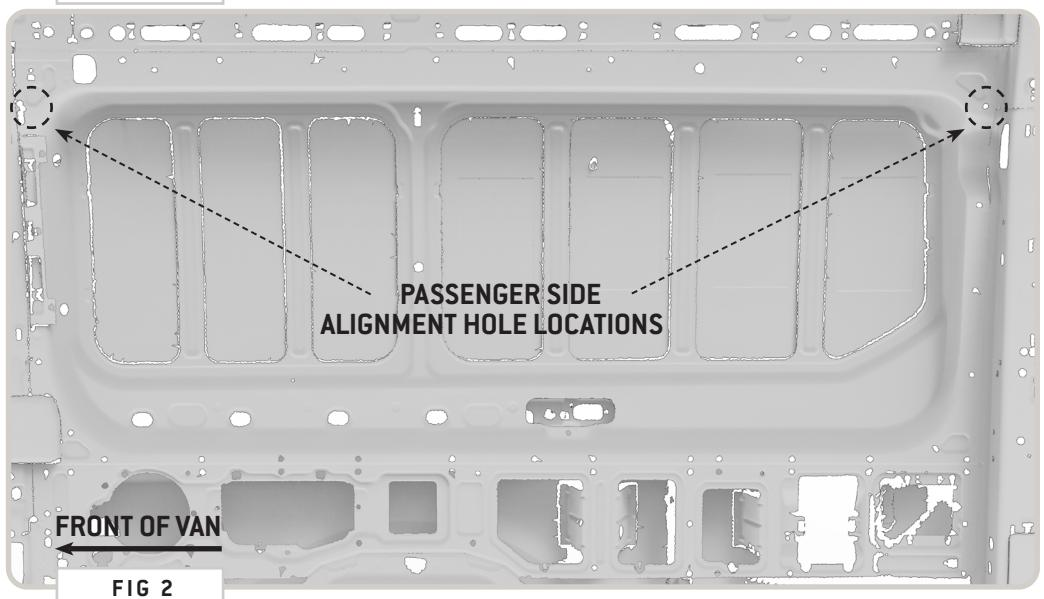

FIG 2
1.2 Passenger Side Alignment Locations: See FIG 2 for alignment hole locations for **Passenger Side Bracket** installation